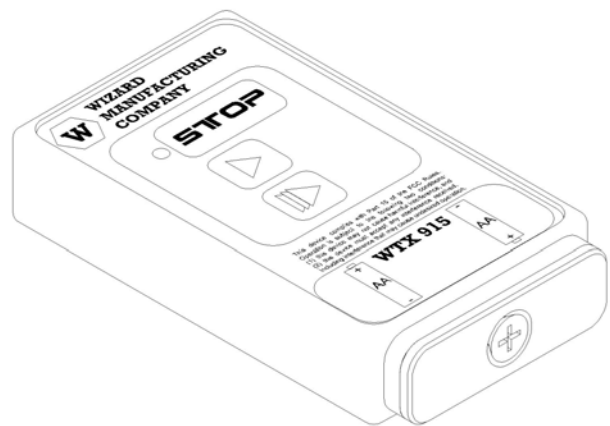

Figure 3
5. Rotate the Battery Cover Plate to cover the battery compartments (see Figure 3 below).